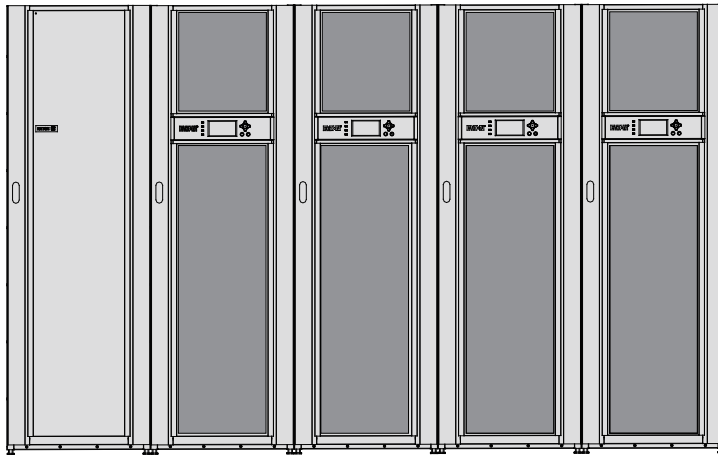

Figure 1-2. Eaton System Parallel Module and UPS(93E as example)
- Figure 1-2. Eaton System Parallel Module and UPS(93E as example). 2